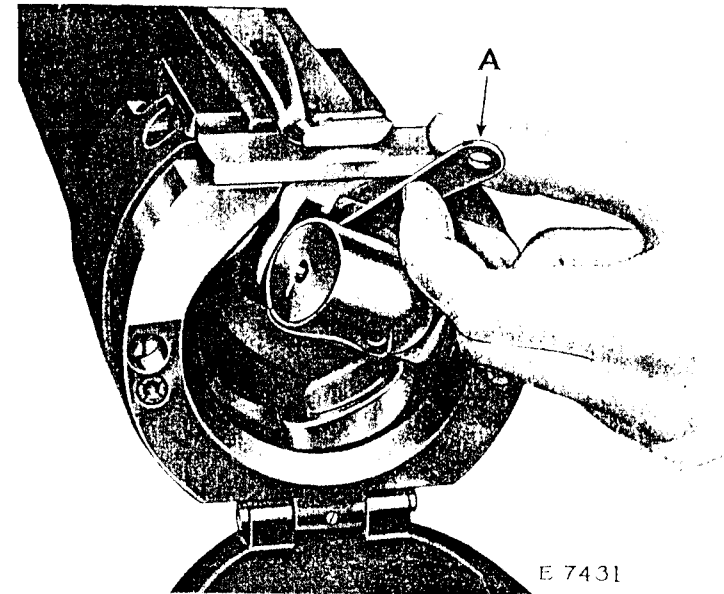

Fig.3. Shuttle Opener 120571 in Use
Turn the balance wheel over toward you until the needle moves up to its highest position. Hold the shuttle opener (A, Fig.3, page 5) with its curved end pointing downward, and insert it between the shuttle cylinder and the shuttle latch spring as shown
In Fig.3. Raise the end of the shuttle opener (A) and the shuttle will swing outward. Then take out the bobbin.